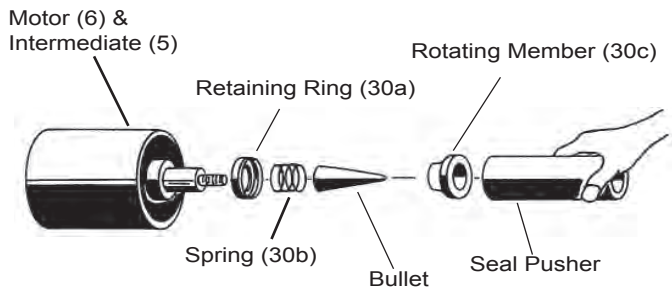

FIGURE 3
Insert seal retaining ring (30a) along with spring (30b) onto motor shaft until seated. Lightly oil motor’s shaft (**DO NOT use grease**) and inner surface of rotating member (30c) and seal assembly bullet (see parts list-Seal Tool Kit). Place the bullet over shaft threads and with lapped surface facing out, press rotating member (30c) with a Seal Pusher (see parts list- Seal Tool Kit) onto shaft and into intermediate assembly (5) until it seats against shoulder on shaft see FIGURE 3.